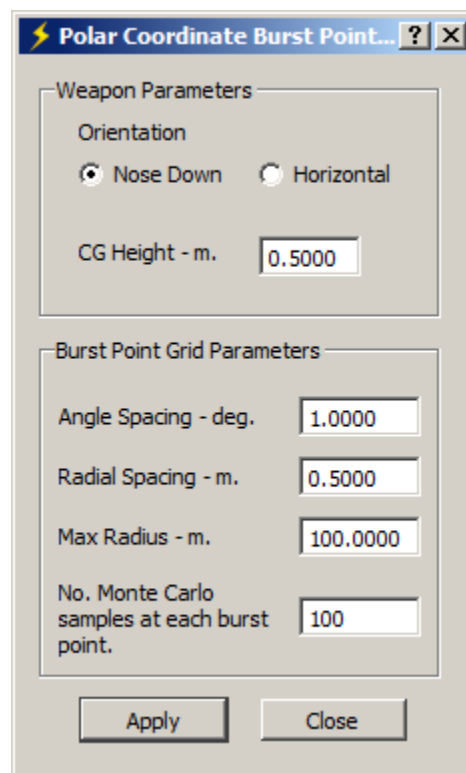

Figure 58 - Polar coordinate option dialog.
Some users prefer to idealize the warhead as being at the origin and the target being displaced w.r.t. the origin. TurboPK now implements this as an option. It is invoked via the menu item **Actions...Burst Point Grid - Polar Coordinates**. Selecting this menu item pops up the dialog box shown in Figure 58. "Weapon Parameters" include projectile orientation and CG location. Currently, only two projectile orientations are offered, (1) nose down, and (2) horizontal. Targets are placed along radial lines emanating from the origin. "Burst Point Grid Parameters" include the angular spacing of the radials, the distance (radius) spacing along each radial, a maximum radius, and the number of Monte Carlo point-bursts to be done at each burst point.